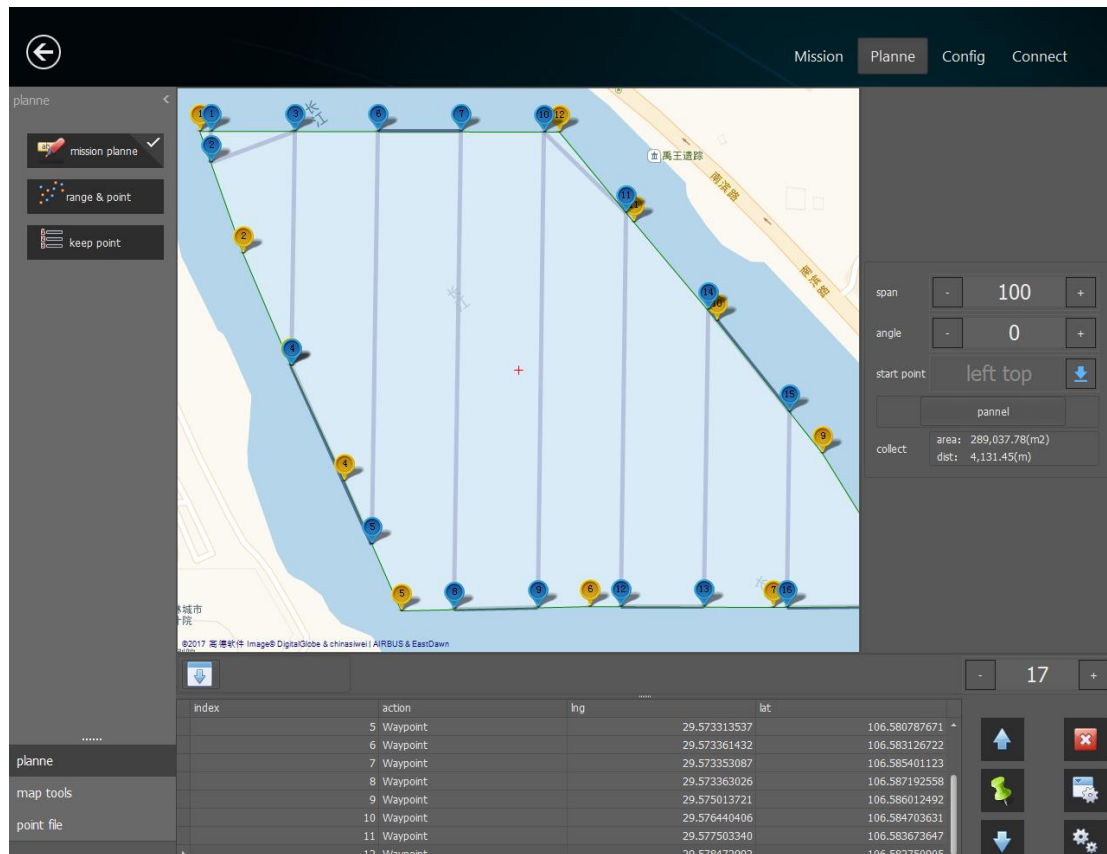

Figure 27 Automatic planning
2) In determining the scope of a polygon, can use the automatic planning function to the planning of the covering area: check the "mission planning", the interface appears to the right of automatic planning parameters input box; input interval, angle, start position, and then click on the "planning" button, will have to meet the conditions of the planning point planning and automatic line, figure 27.